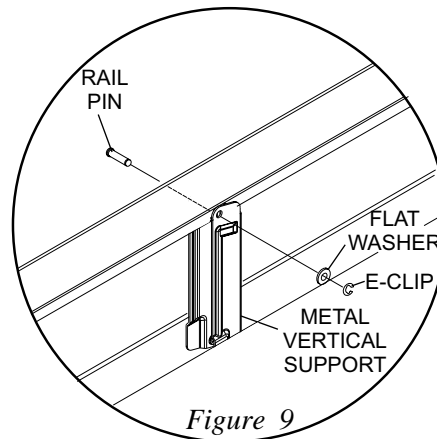

Figure 9
11. Place the rail into the gutter channel, raise a vertical support and insert the pin from the **lane side** of the rail through the vertical support and rail. Place the **flat washer** onto the pin and reinstall the E-clip. Repeat for the second vertical support. Refer to Figure 9.